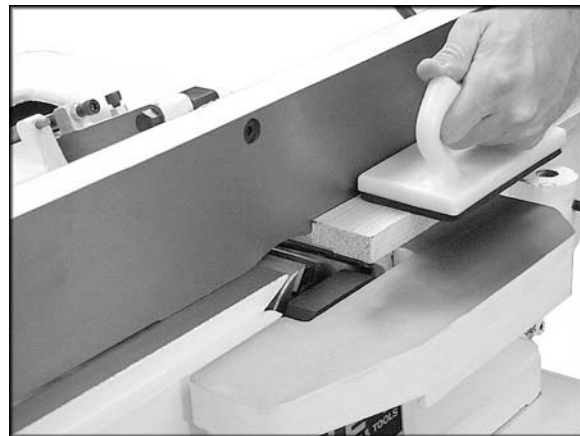

Figure 32
1. Adjust the fence so that the distance between the end of the knives and fence is equal to the width of the rabbet (Fig. 32).